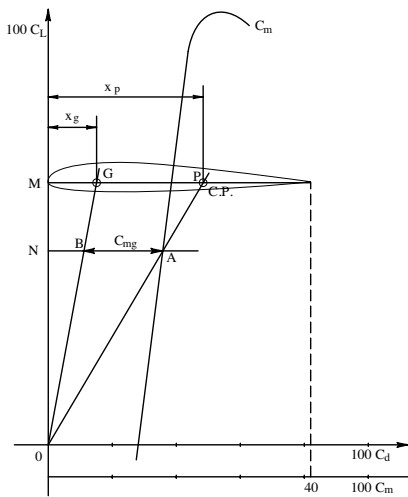

Fig. 3-19
**Moment Arm.** Let's suppose we now would like to find the moment, not in relation to the leading edge as we did previously, but in relation to any point on the chord of the airfoil in question, let us say point G for an attitude corresponding to the point A for the moment curve in Fig. 3-19.